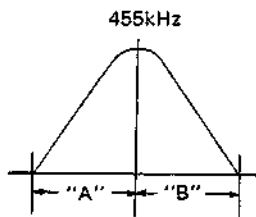

Fig. 25
1. Adjust the wave center to 455kHz and also for symmetrize "A" and "B" with T805,806,808.(Fig. 25)